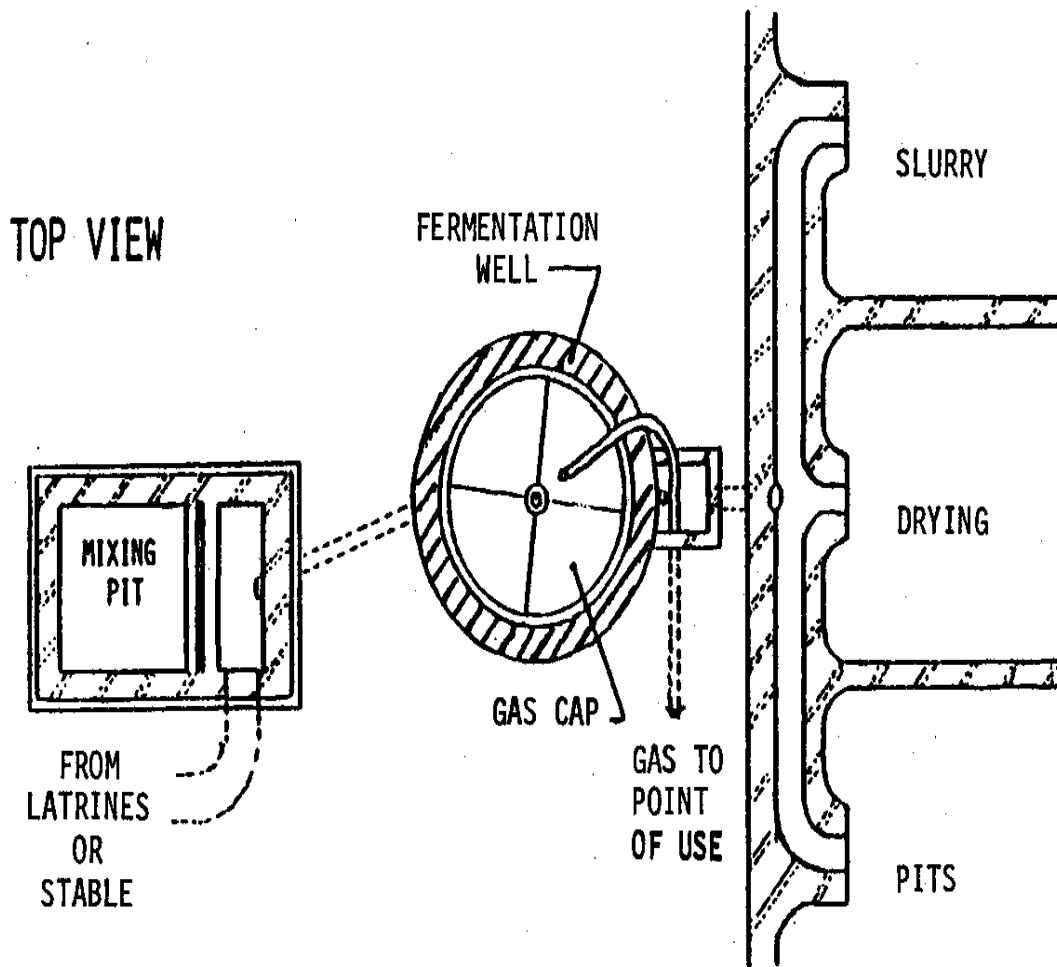

Figure 2. Location of Digester From Fuel Source
- * Try to locate the digester near the stable (see Figure 2) so